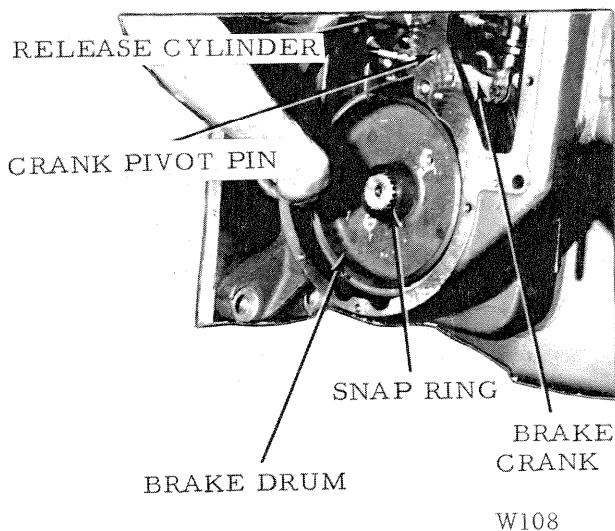
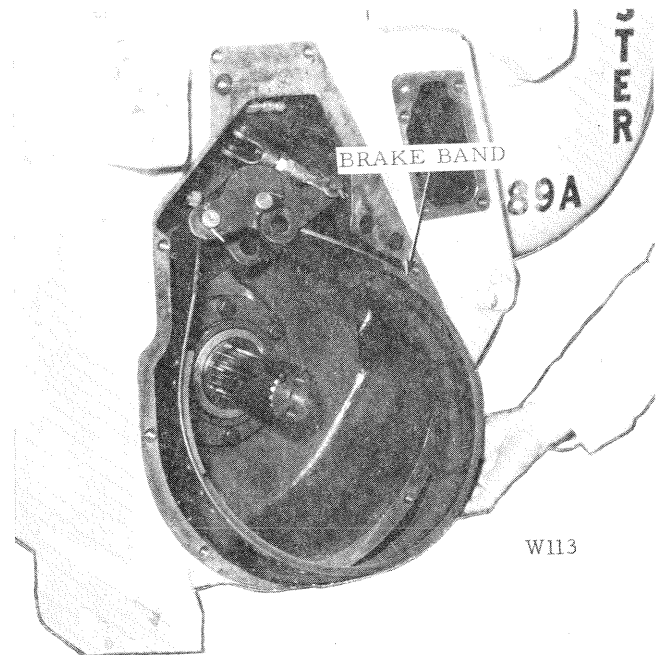

Figure 17
Figure 22
A. General. Fig. 17
3. Disconnect the rod end from the brake crank or release cylinder. Pull the brake crank pivot pin out. Fig. 17. Lift the brake band out of the case. Fig. 22.